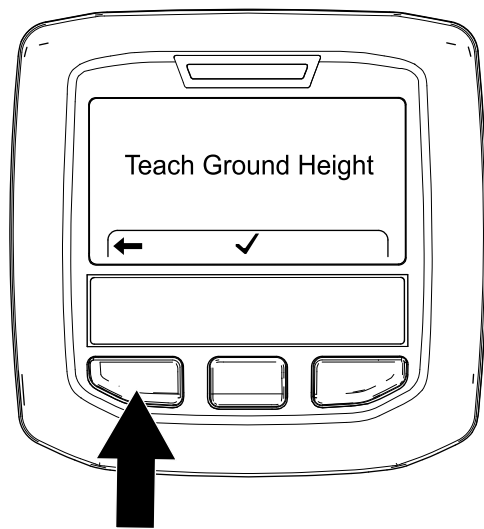

Figure 71
7. Press the left InfoCenter button to exit the Teach Ground Height application (Figure 71).